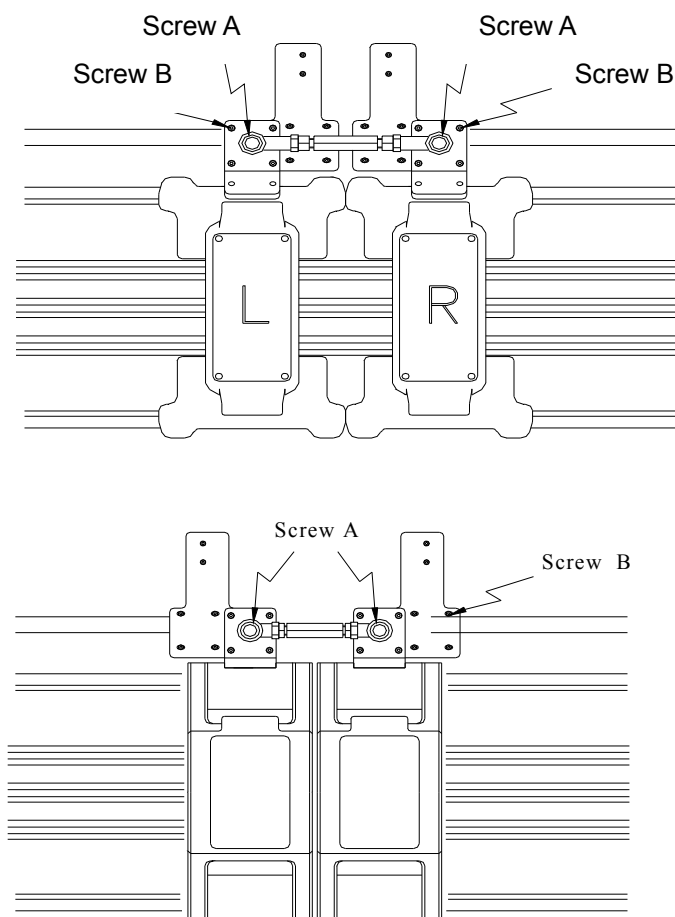

Fig 7.8.1 Combination & separation carriage (5G~14G)
- b. Fig.7.8.1 is a top overview of carriages.